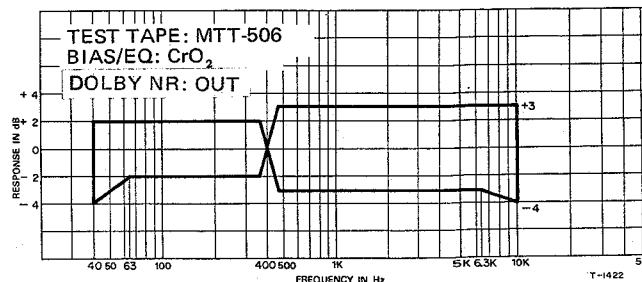

Fig. 6-14 Overall Frequency Response (CrO2, Reverse)
6. Invert the tape and check also the frequency characteristic in the reverse play mode using the previously recorded portion. Refer to Fig. 6-14 for standard.